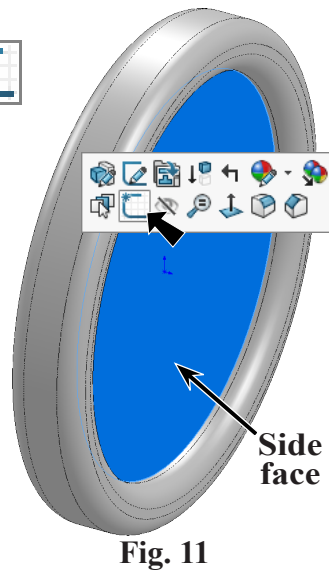
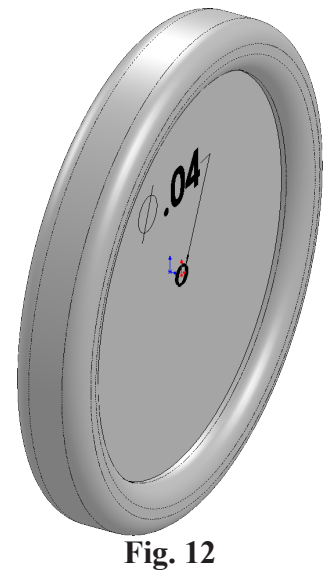

Fig. 11
Fig. 12
Step 1. Click the **side face** and click **Sketch** on the context toolbar, **Fig. 11**.
Step 2. Click **Circle**  (S) on the Sketch toolbar.
Step 3. Sketch circle for hole at the Origin , **Fig. 12**.
Step 4. Click **Smart Dimension**  (S) on the Sketch toolbar.
Step 5. Dimension circle **.04**, **Fig. 12**.